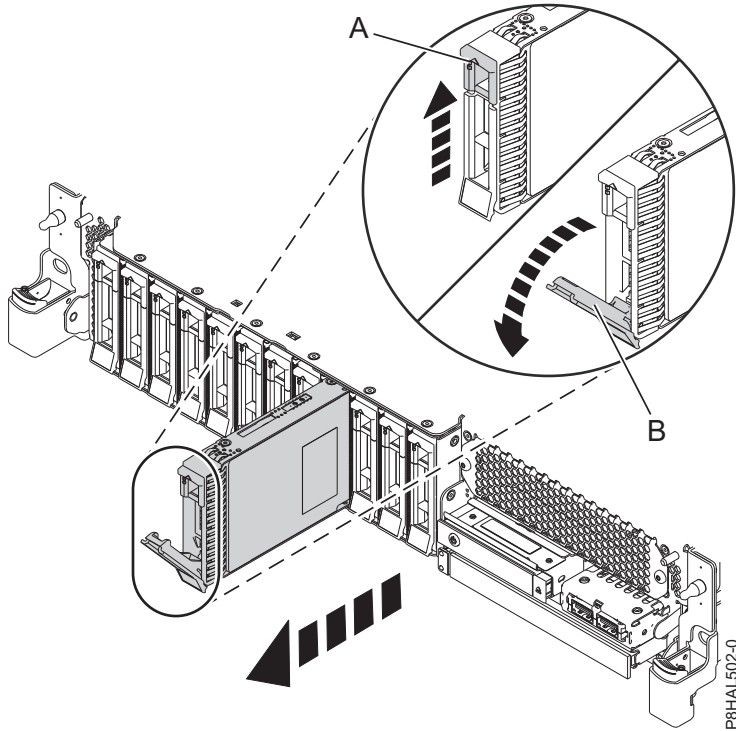
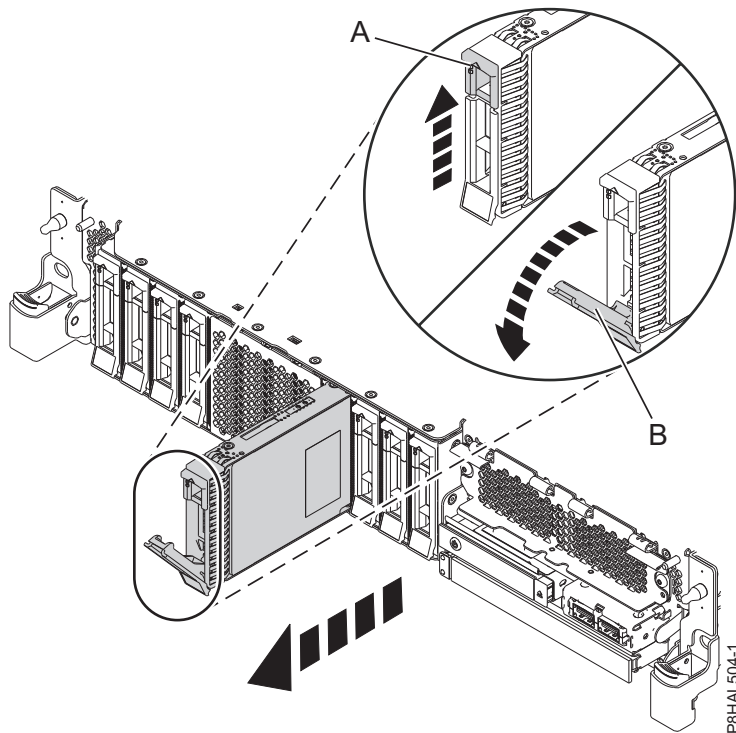

Figure 50. Removing a disk drive from a base function system
Figure 51. Removing a disk drive from an expanded function system
3. When the identify LED turns on solid, unlock the drive bay handle (**B**) by pressing the handle latch (**A**) and pulling it out toward you, as shown in Figure 50 on page 52 and Figure 51 on page 52. If the handle is not all the way out, the solid-state drive cannot slide out of the system.